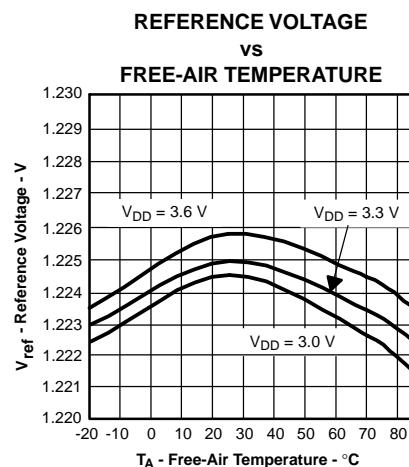

Figure 2-8. Reference Voltage vs Free-Air Temperature
2.2.6 Voltage Reference (see Figure 2-8)